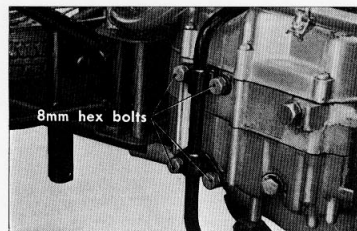

Figure 4-37. Installing step bar
- (2) Reinstall the step bar on the crankcase with four 8 mm hex. bolts. (Fig. 4-37)